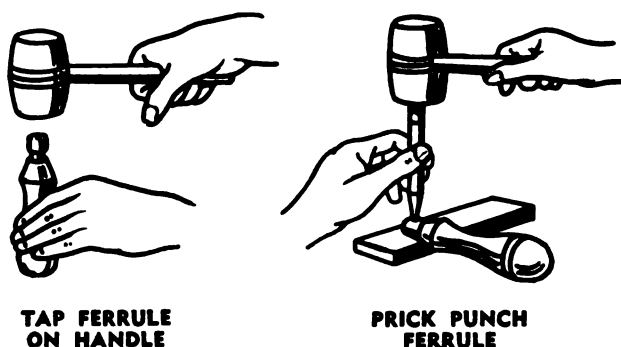

Figure 242. Installing ferrule on awl handle.
e. When a handle has been broken or damaged so as to require replacement, place the awl blade in a soft-jawed vise and pull or tap the handle off the shank of the blade. Pry the ferrule from the handle. If ferrule is not damaged, press or tap it on a new handle with a soft-faced mallet and prick punch ferrule to handle, as shown in figure 242. If ferrule is damaged, use a new one. Position new handle on shank end of blade and press or tap handle onto blade. Remove awl from vise.